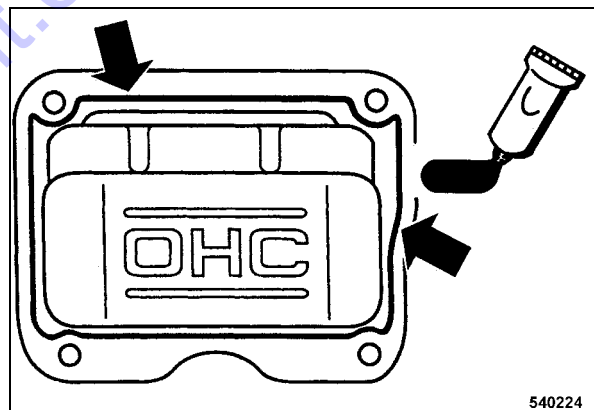

Fig. 50
- Apply a bead of liquid gasket (Three Bond 1207B or similar) with a diameter of approx. 1.5 to 2 mm (0.06 to 0.08 in) to the inside of the cylinder head cover (Fig. 50).